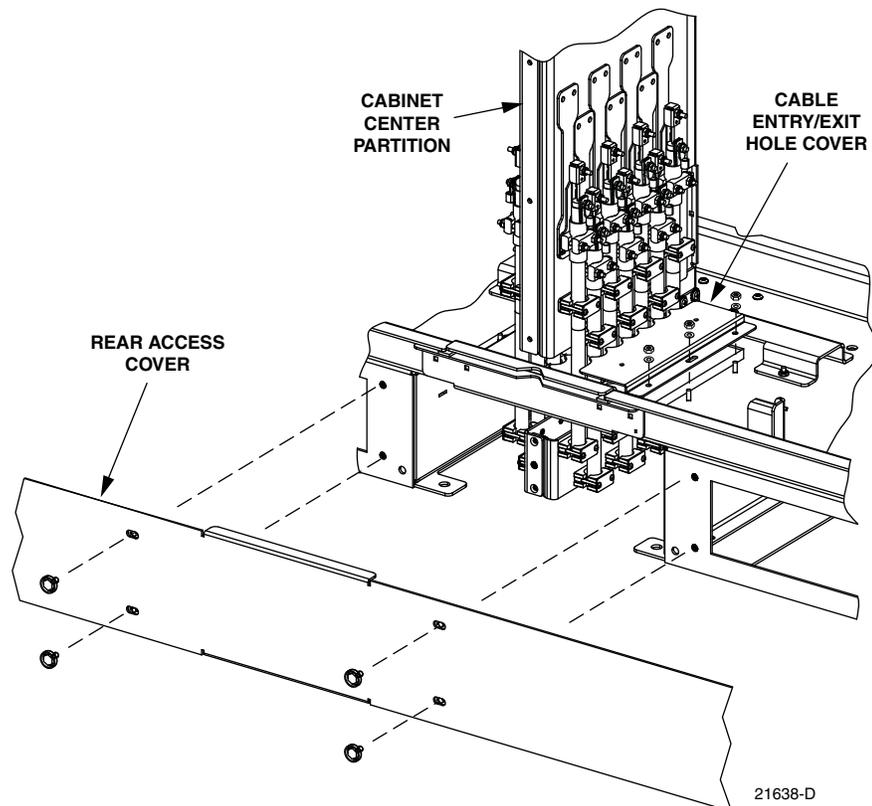

Figure 21. Cable Entry/Exit Hole Cover
1. Use a 3/16-inch hex-key to remove the screws that secure the rear access cover to the cabinet ground spacer/riser as shown in Figure 21.
3. Remove the nuts that secure the cable entry/exit hole cover (see Figure 21) to the bottom of the cabinet. Save nuts for reuse.
- **Note:** Figure 21 shows how to remove the entry/exit hole cover for distribution cables 1–6. The entry/exit hole cover for distribution cables 7–12 is mounted on the opposite side of the cabinet center partition and may be removed using the same basic procedure.